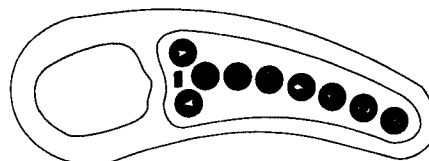

FIGURE 2
1. RF REMOTE CONTROL UNIT (Figure 2)
6. KEYPAD (See Figure 2)